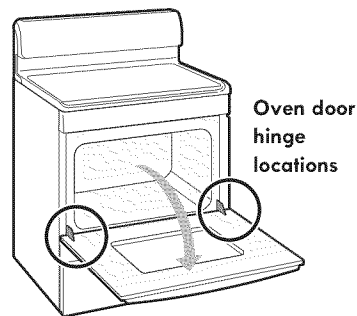

Figure 49: Oven hinge locations
1. Open oven door completely (horizontal with floor - Figure 49).
3. Fully open the oven door (horizontal with floor - Figure 49).